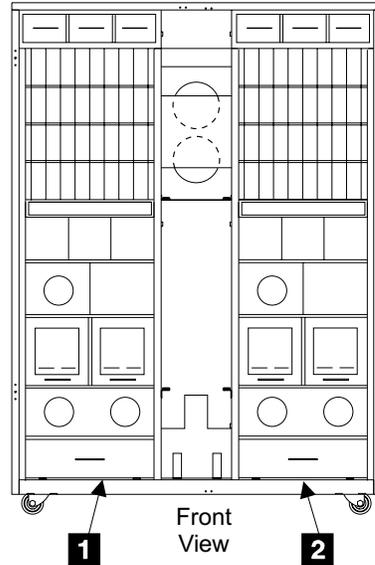

Figure 259. Tailgate Cable Strain Relief Clamps (S007636m)
- Cluster Bay 1 tailgate, **1** [Figure 259]
- Cluster Bay 2 tailgate, **2** [Figure 259]